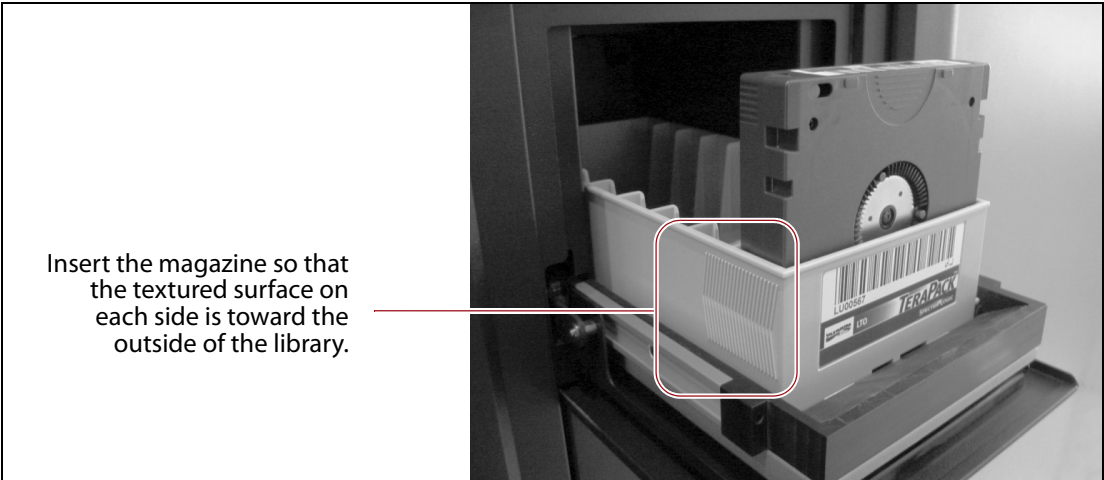

Figure 112 Insert a magazine into the TAP, making sure that it is correctly oriented.
- a. Insert a magazine into the tray on the open TAP, making sure that it is oriented with the textured surface on each side toward the outside of the library, as shown in Figure 112.